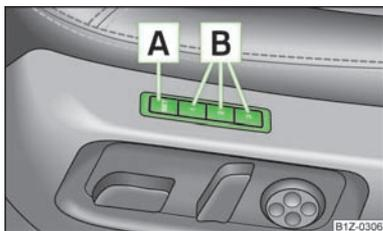

Fig. 42
The memory function for the driver's seat provides the option to store the individual positions of the driver's seat and the external mirrors. A setting position can be allocated to each of the three memory buttons  » Fig. 42, i.e. three in total.
- › Press the button   » Fig. 42.
- › Press the required memory button  » Fig. 42.
- > **One-touch automatic memory:** briefly press the desired memory button  » Fig. 42. The seat and exterior mirror are moved automatically into the stored positions (this applies only if the ignition is switched on and the speed is less than 5 km/h).